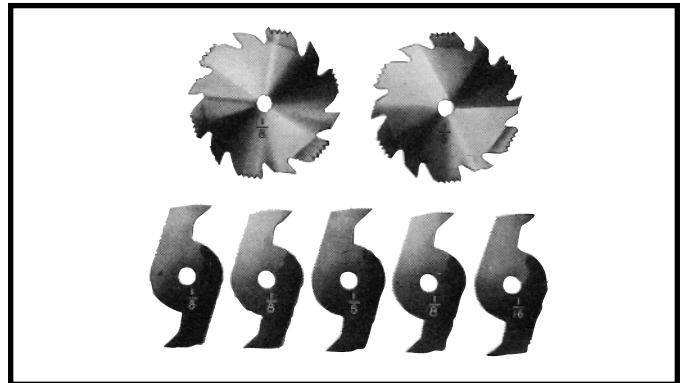
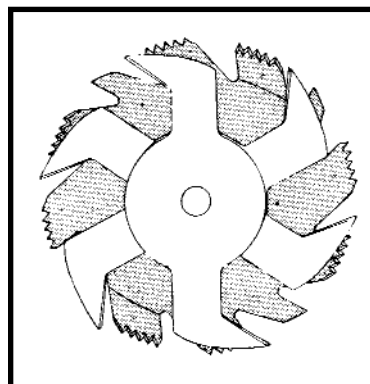
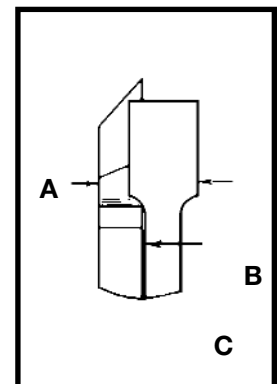

Fig. 54A
Fig. 55
Fig. 56
1. Dadoing is cutting a rabbet or wide groove into the work. Most dado head sets are made up of two outside saws and four or five inside cutters, (Fig. 54A). Various combinations of saws and cutters are used to cut grooves from 1/8" to 13/16" for use in shelving, making joints, tenoning, grooving, etc. The cutters are heavily swaged and must be arranged so that this heavy portion falls in the gullets of the outside saws, as shown in Fig. 55. The saw and cutter overlap is shown in Fig. 56, (A) being the outside saw, (B) an inside cutter, and (C) a paper washer or washers, used as needed to control the exact width of groove. A 1/4" groove is cut by using the two outside saws. The teeth of the saws should be positioned so that the raker on one saw is beside the cutting teeth on the other saw.